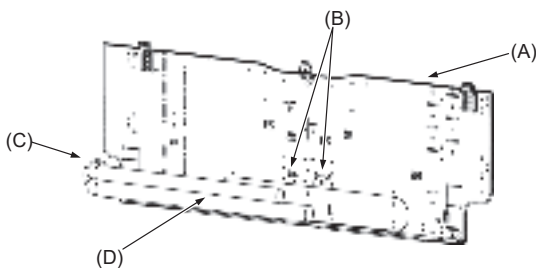

Fig. 3-5
- (A) Min. 120 mm, 4-11/16 in. (617.6 mm, 24-5/16 in. or greater with optional drain pump installation)
- (B) Min. 220 mm, 8-11/16 in.
- (C) Min. 70 mm, 2-3/4 in. (130 mm, 5-1/8 in. or greater with left, rear left, or lower left piping, and optional drain pump installation)
- (D) Fixing screws (4 × 25) (2)
- (E) Level
- (F) Mount board (1)
3.3. When embedding pipes into the wall (Fig. 3-5)
- (A) Mount board (1)
- (B) Reference marking for flare connection
- (C) Through hole
- (D) On-site piping